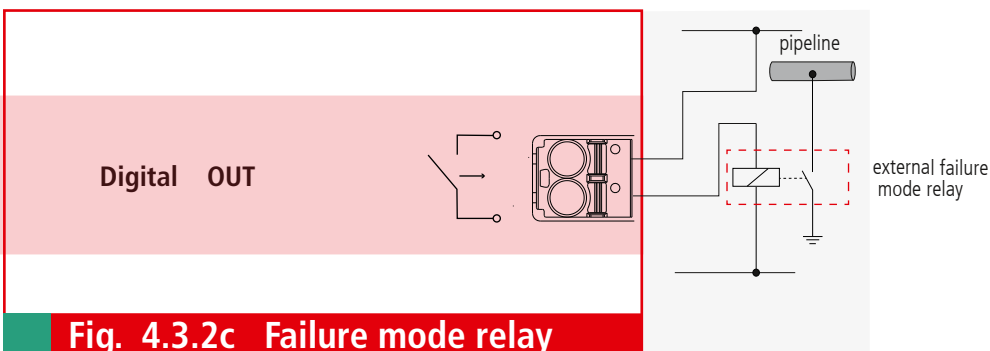

Fig. 4.3.2c Failure mode relay
- An external **failure mode relay** (e.g. switch contactor) can be connected on a higher level to ensure personal protection (see Fig. 4.3.2c).